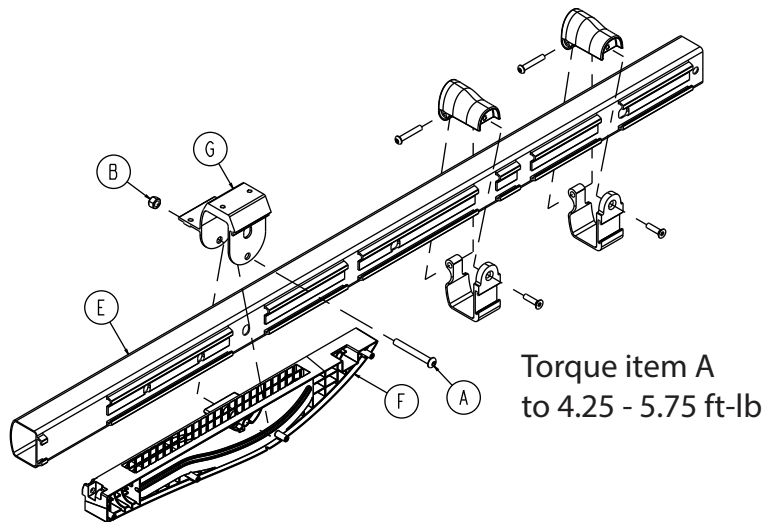

Figure 110 – Remove the slider block
12. Using a 3/16" hex wrench and a 1/2" combination wrench, remove the button head cap screw (A) and Nylock hex nut (B) that secure the slider block (F) to the outer rail (E) (Figure 110). Save all parts.